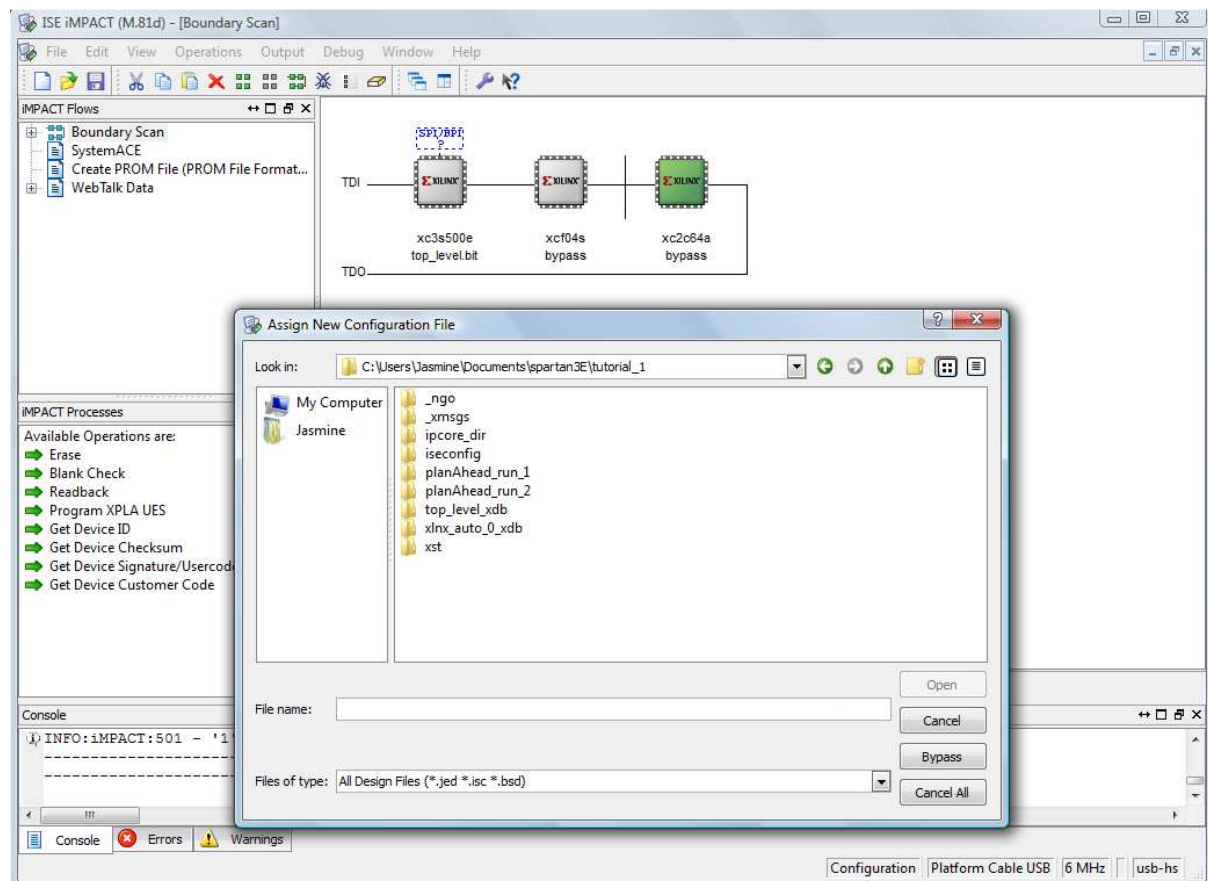

Figure 5.45: iMPACT window, bypassing the xc2c64a.
11. The **Assign New Configuration File** window will appear yet again (Figure 5.45). Again click **Bypass**. This ensures that the xc2c64a is bypassed.